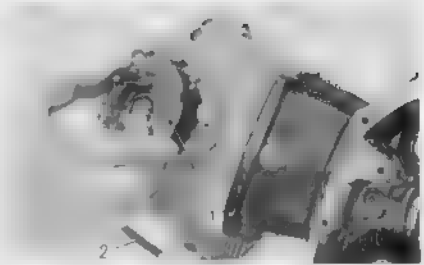

Fig. 3.14 Removing the contact breaker assembly ① and disconnecting the lead wire ②
5. Remove the contact breaker assembly ① and disconnect the lead wire ②. (Fig. 3.14)